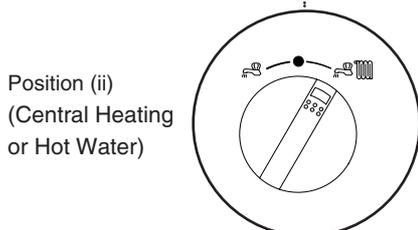

Fig. 5
6. **Position (ii)** In this position the central heating will operate according to demand or provide domestic hot water when a tap or shower is turned on (Fig. 5).